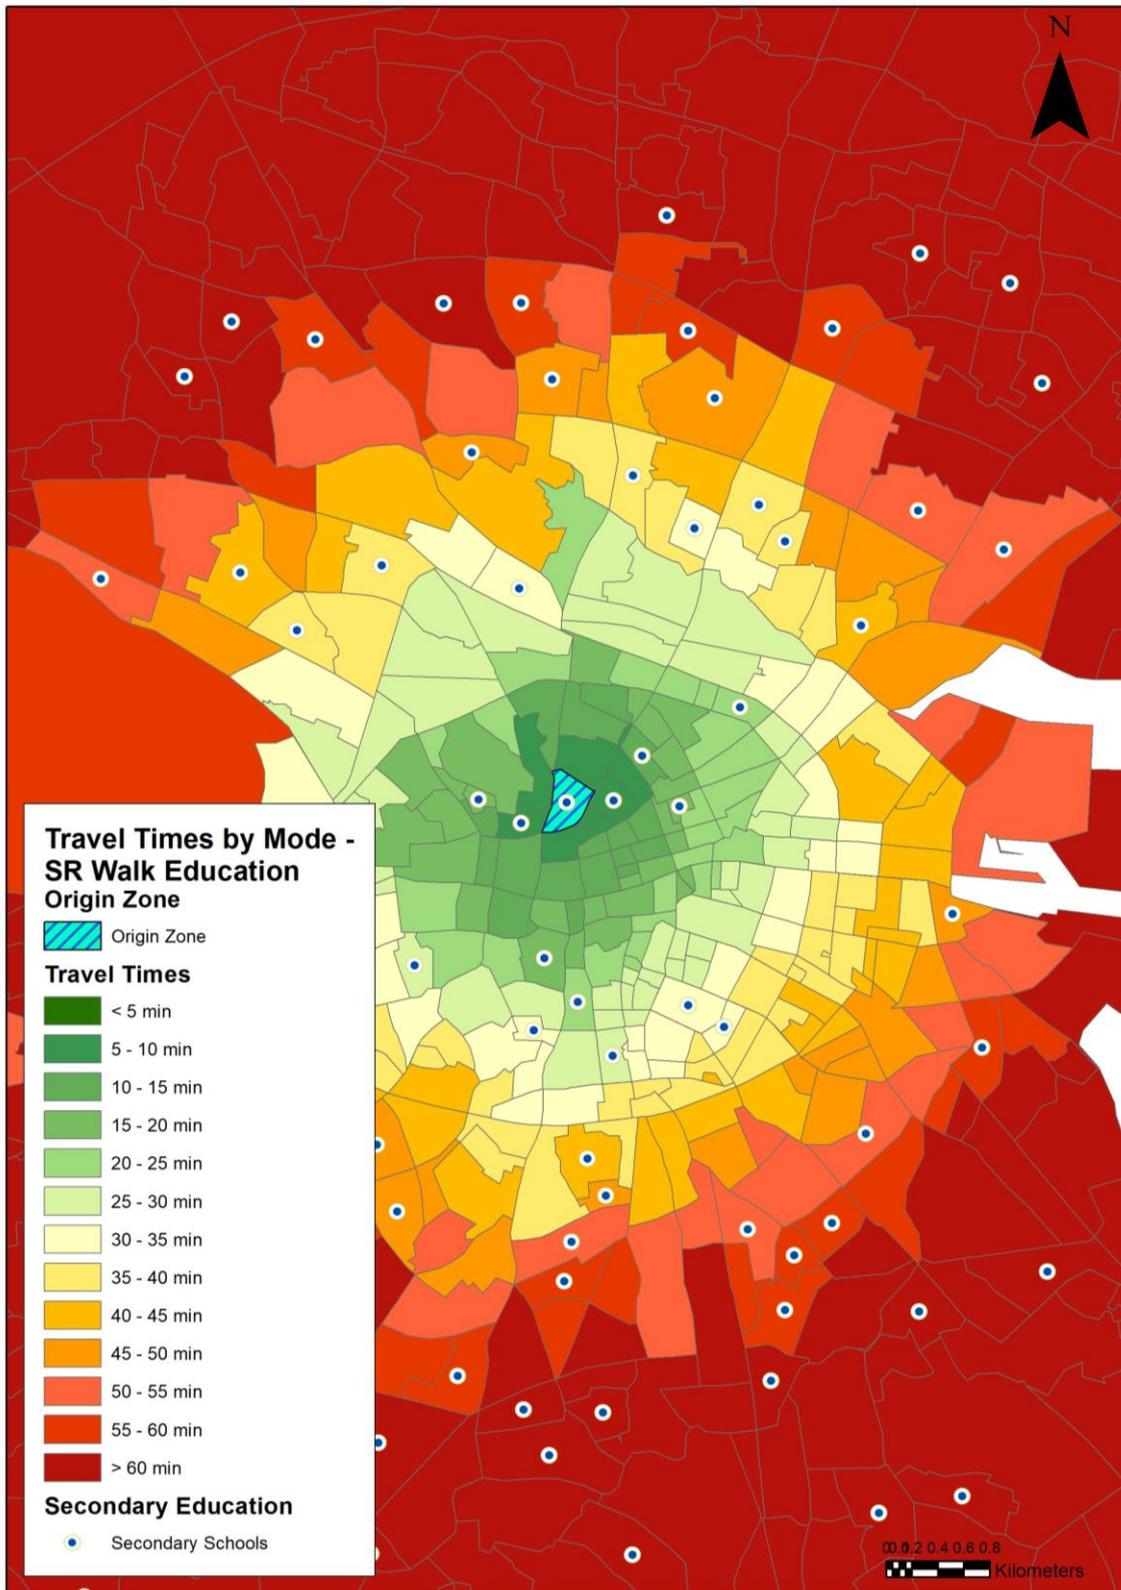

Figure 4.2 Accessibility GIS Output – Travel Times by Mode
- **Figure 4.2** shows the other Accessibility output which can be produced, travel times by mode for secondary education during the school run for active (walking) education trips for a zone in the East Regional Model.